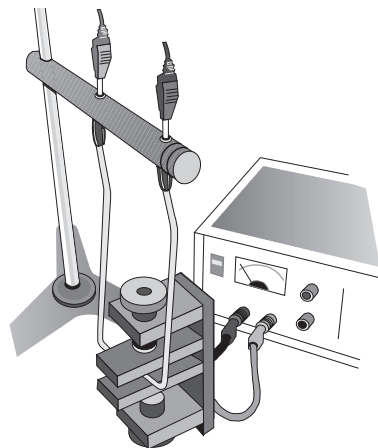

Figure 9
- ④ Connect a power supply (12 V, 6 A) to the top banana jacks on the bar (Figure 9).